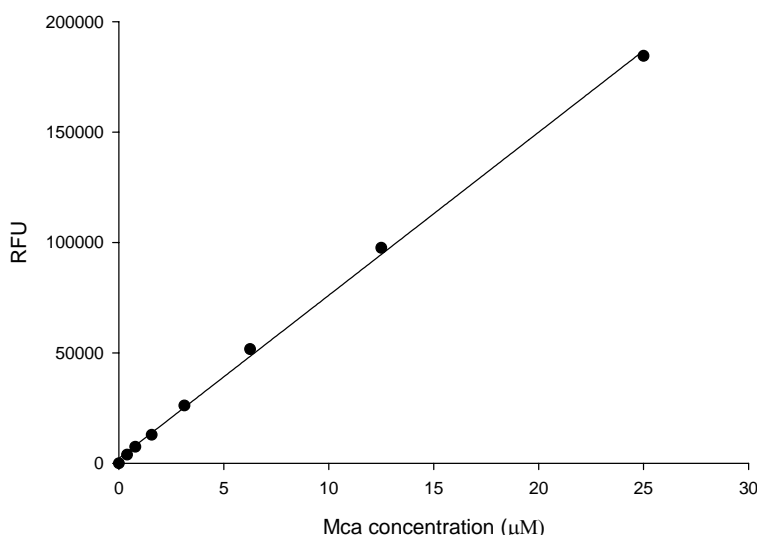

Figure 2. Mc-Ala reference standard.
- Plot the Mc-Ala fluorescent reference standard curve as RFU (relative fluorescent units) versus concentration as shown in **Figure 2**.